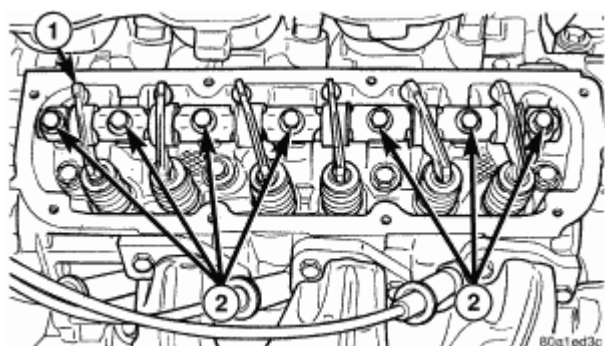

Fig. 113: Rocker Arms & Shaft
3. Slowly tighten rocker shaft bolts evenly until shaft is seated. Tighten bolts to 23 N.m (200 in. lbs.). See **Fig. 113**.